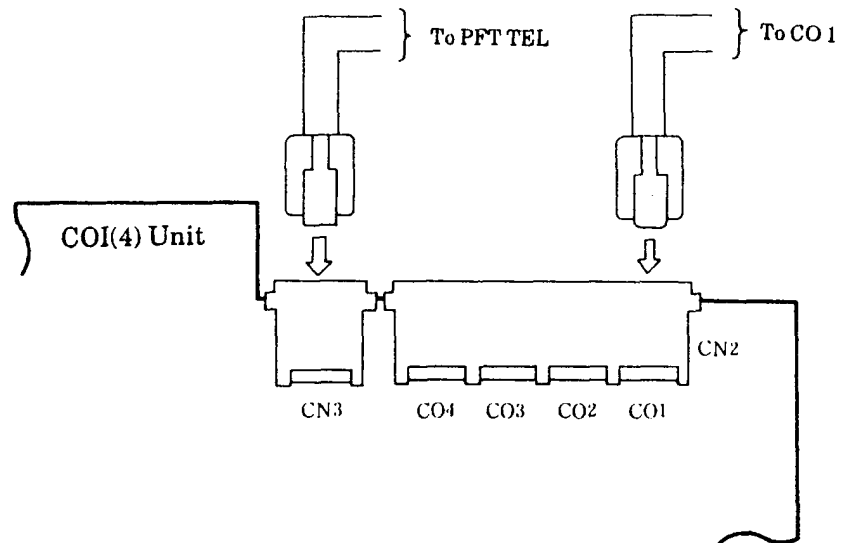

Figure 1-31 Connecting a Single Line Telephone for Power Failure Transfer
Connect the SLT to the modular jack, on the COI (4) Unit, designated for PFT. Only one PFT circuit is provided for CO/PBX line 1. (Refer to Figure 1-31 - Connecting a Single Line Telephone for Power Failure Transfer.)